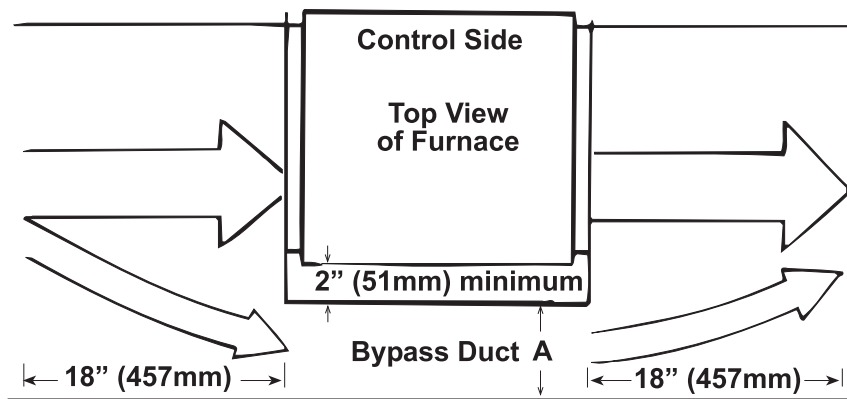

Figure 11. Bypass Duct Dimensions
When the air throughput CFM is greater than desirable or permissible for the unit, a bypass duct (see Figure 11) may be constructed. Locate the bypass duct on the side of the furnace opposite the controls and 2 inches from the heat exchanger side panel. Extend the bypass duct 18 inches (457 mm) beyond the furnace on both the inlet and outlet ends. Determine the correct size of the bypass duct as follows:
*See Figure 11.